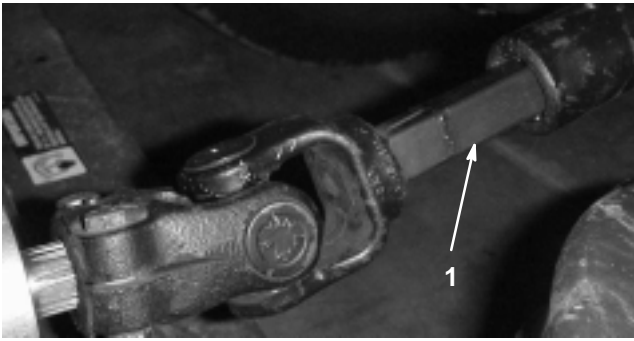

Figure 25
5. Roll the cutting unit away from the traction unit, separating the male and female sections of the PTO shaft (Fig. 25).
3. Slide the male PTO shaft into the female PTO shaft. (Fig. 25)